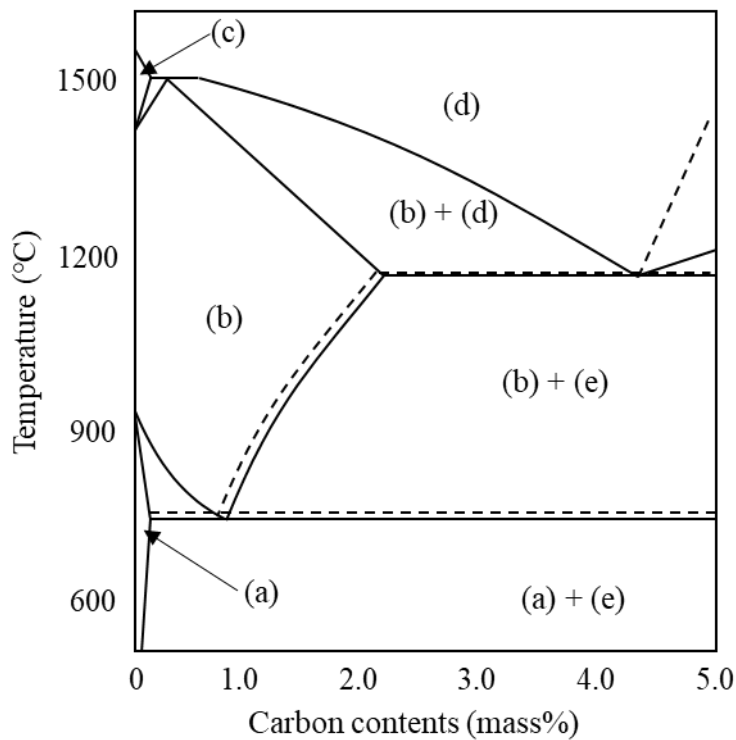

Fig. 1
- (1) Explain two of the mechanisms strengthening metals and alloys.
- (2) Draw one of the  $\langle 1\bar{1}1 \rangle$  on  $\{110\}$  slip systems in a body-centered cubic metal.
- (3) Choose an appropriate one from ① to ⑥ for the phases (a) to (e) shown in the Fe-C (Fe-Fe3C) phase diagram in Fig. 1. The same term may be chosen more than once.
- ① ferrite      ② austenite      ③ martensite
④ liquid      ⑤ Laves phase      ⑥ cementite